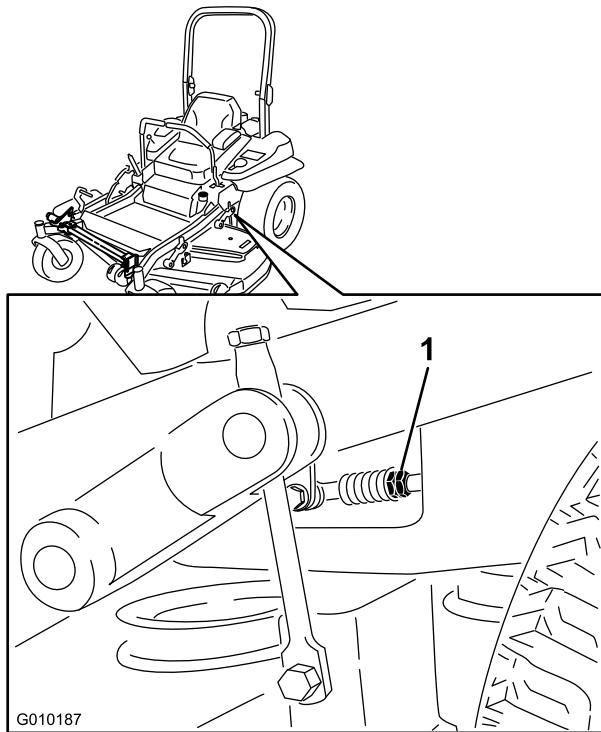

Figure 78
7. Bring the motion control levers into the neutral position. Adjust pump control rod lengths by rotating the double nuts on the rod in the appropriate direction until the wheels slightly creep in reverse (Figure 78). Move the motion control levers to the reverse position and while applying slight pressure to the lever allow the reverse indicator springs to bring the levers back to neutral. The wheels must stop turning or slightly creep in reverse.